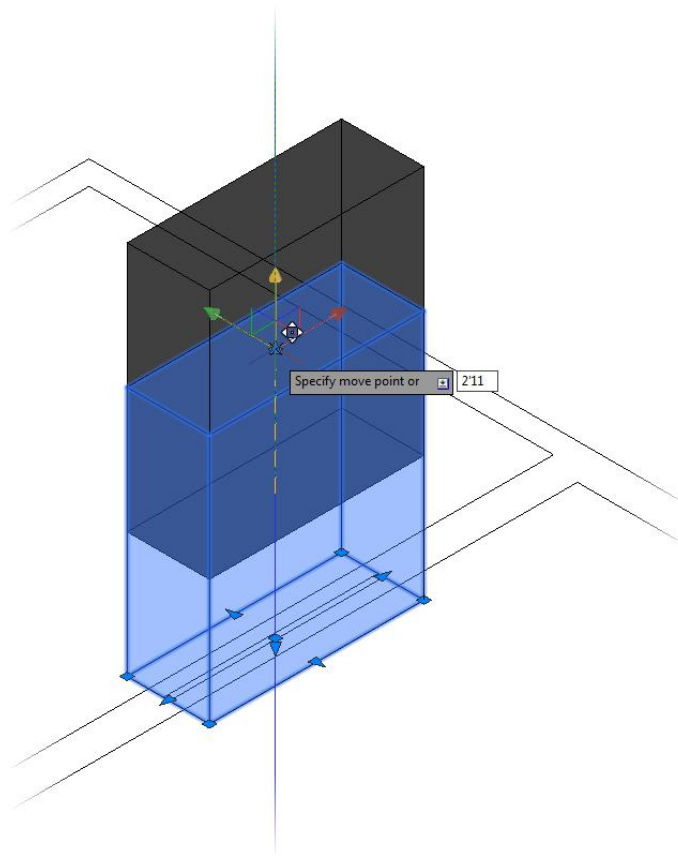

FIGURE 16.20: The z-axis vector indicating that moves are restricted to the z-axis
4. Move the cursor over each of the colored axes of the Move grip tool. Notice that the axis turns yellow to indicate that it is current, and a vector appears in line with the axis, as shown in Figure 16.20. When a vector is visible, all movements, whether indicated with the cursor and a mouse click or with input from the keyboard, are constrained to the axis indicated.